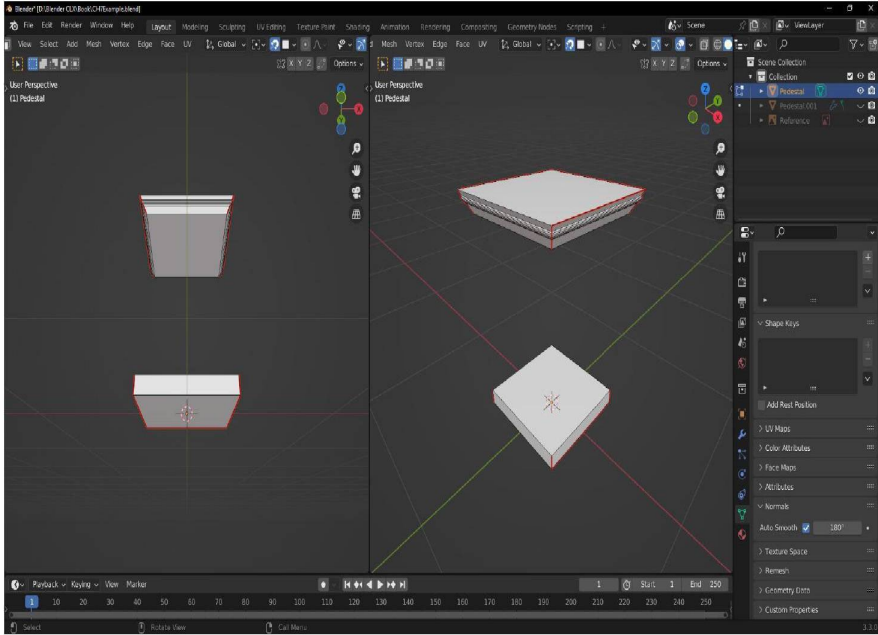

Figure 7.16: Base and cap with Seam markings in the typical “L” shape or Box unwrap configuration
14. Beginning with the simpler base shape, in **Edge Select mode**, first select the bottom back and two bottom side edges of the bottom face and mark these as Seams as shown in *Figure 7.16*.
16. Lastly, select the top back and two top side edges of the top face of the cap, and mark these as Seams as shown in *Figure 7.16* as well: